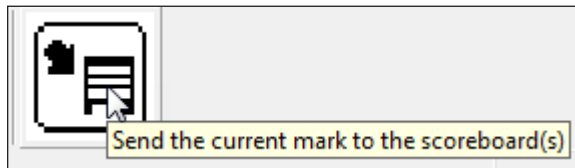

Figure 77: Send Mark
9. With an event open in FieldLynx, click the button shown in **Figure 77** to output the mark data.